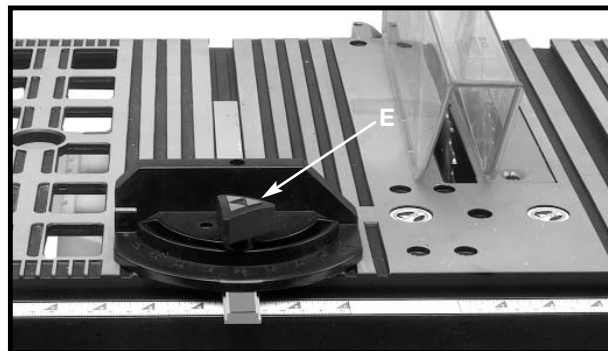

Fig. 37
To operate the miter gauge, loosen the lock knob (E) Fig. 37, and rotate the miter gauge to the desired angle.